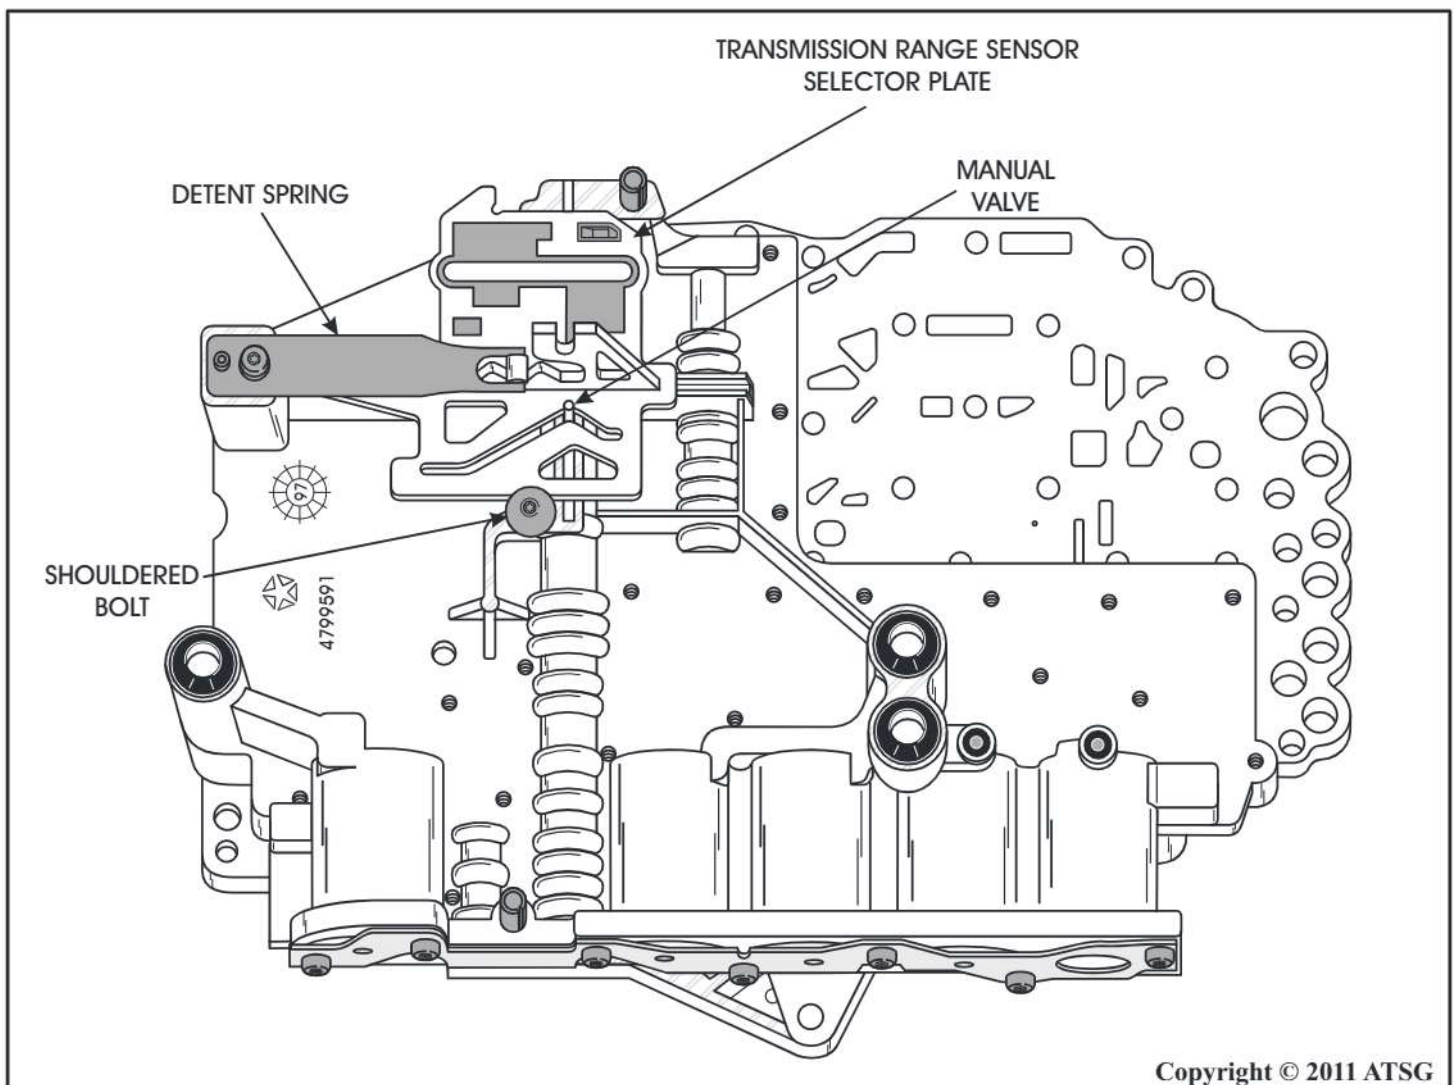

Figure 128
15. Install the manual valve into the manual valve bore in the valve body with the stem facing up and engaged in the groove (See Figure 128).
16. Install the transmission range sensor selector plate into the groove in the valve body and over the stem on the manual valve (See Figure 128).
17. Install the shouldered retaining bolt for the transmission range sensor selector plate and torque the bolt to 4.5 Nm (40 in lbs). Refer to Figure 128.
18. Install the manual valve detent spring and bolt and torque bolt to 4.5 Nm (40 in lbs). Refer to Figure 128.